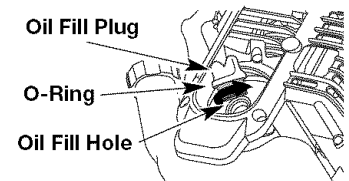

Fig. 28
**NOTE:** Make sure the O-ring is in place on the oil fill plug when checking and changing the oil (Fig. 28).